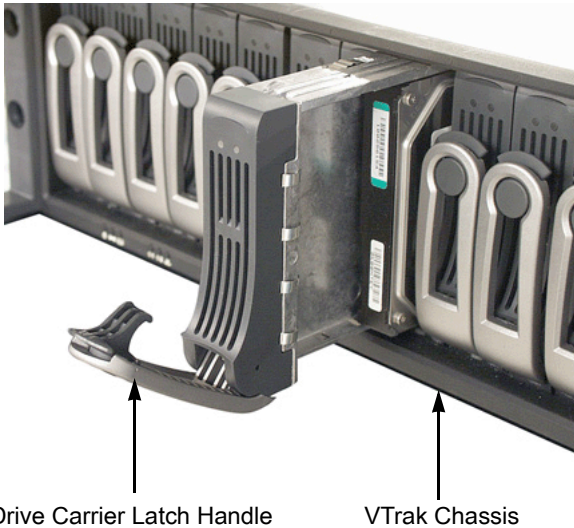

Figure 3. VTrak 15110 Disk Drive access
To remove a Drive Carrier from the VTrak, pull the Drive Carrier Latch Handle and remove an unused Drive Carrier (see Figure 3).
2. Carefully lay the converter into the drive carrier, with the SATA connection facing forward (see Figure 5), so that the screw holes on the bottom line up (see Figure 3).